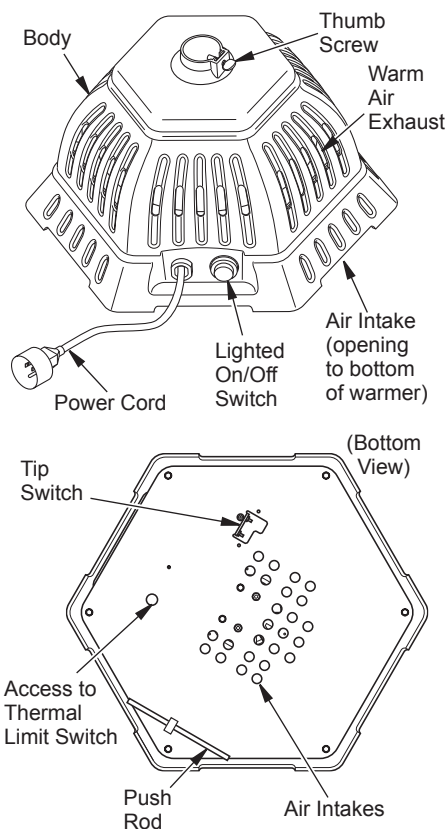

Figure 3 - Umbrella Stand Warmer
15. Do not place or store where product can fall or be pulled into swimming pool or body of water. If product falls into water, unplug immediately. DO NOT REACH INTO WATER. If water is above the air intakes (see Figure 3, page 4) or product is totally immersed in water, dispose of heater properly.
1. Locate product under outdoor patio table on hard, level, dry surface. Post of tip over switch must be on solid surface for product to work. Listen for the "click". See Figure 3 for switch location.